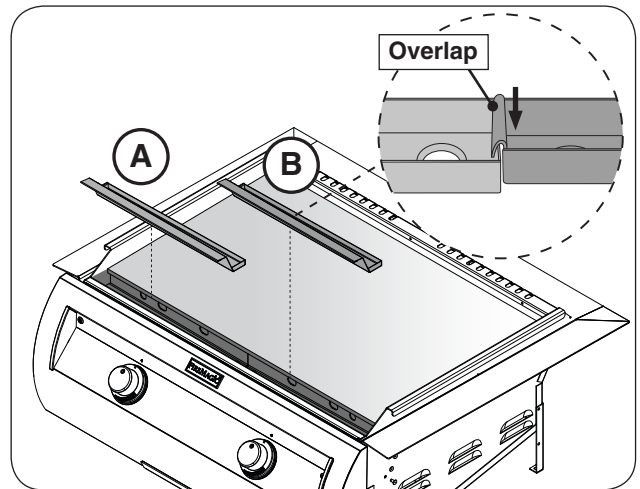

Fig. 24-1 Install drip collector trough
1. Place the left piece inside the griddle drip reservoir and completely slide it to the left side (see Fig. 24-1,A).
2. Place the right piece and ensure it overlaps the left tray as shown in Fig. 24-1, B.